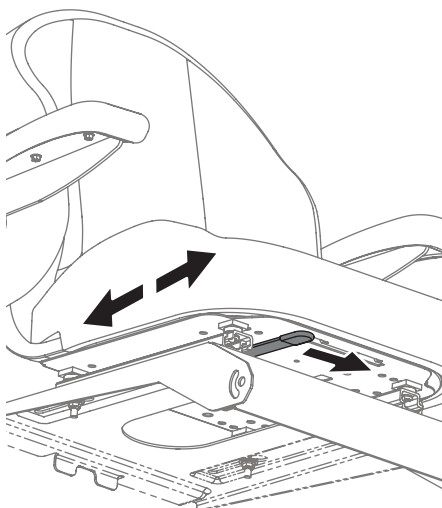

Fig. 18
3. Release the adjustment lever. Ensure seat is locked into position before operation (Fig. 18).